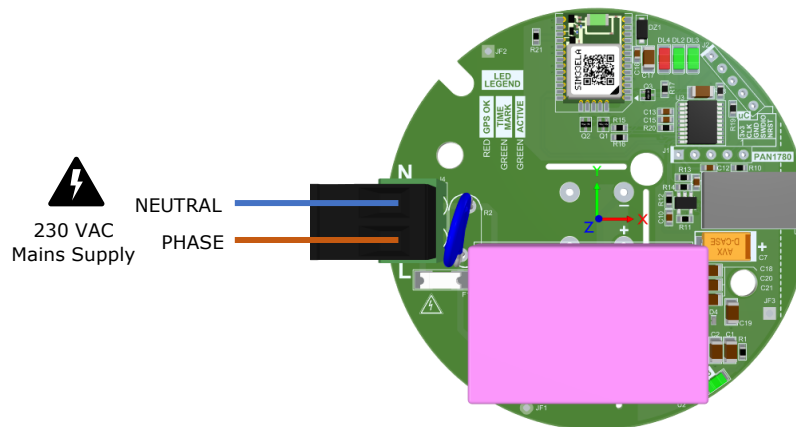

Figure 1: CBU-SKYTIME-IP Power Supply wiring
- a. Insert the 230 Vac mains voltage cable(s) into the cable gland(s) and wire the Neutral (N) and Live (L) wires to the "N" and "L" terminals of the internal AC IN connector (refer to Figure 1). To tight the connector wires, use a 3 mm flathead or Phillips screwdriver.